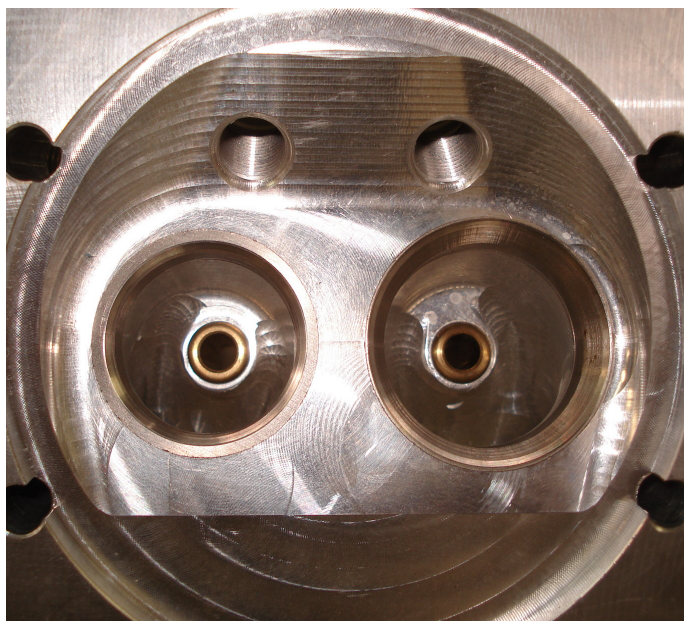

Figure 3 – Current “Wedge” Combustion Chamber
- Engines with Serial Numbers higher than the range listed above were manufactured using variations of the combustion chamber shown in Figure 3.